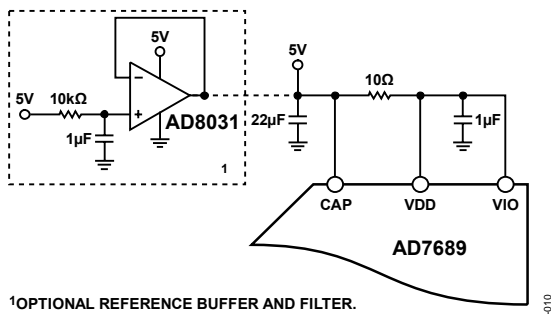

Figure 16. Example of an Application Circuit
For simplified applications, the AD7689, with its low operating current, can be supplied directly using the reference circuit shown in Figure 16. The reference line can be driven by
- A reference buffer, such as the AD8031, which can also filter the system power supply, as shown in Figure 16